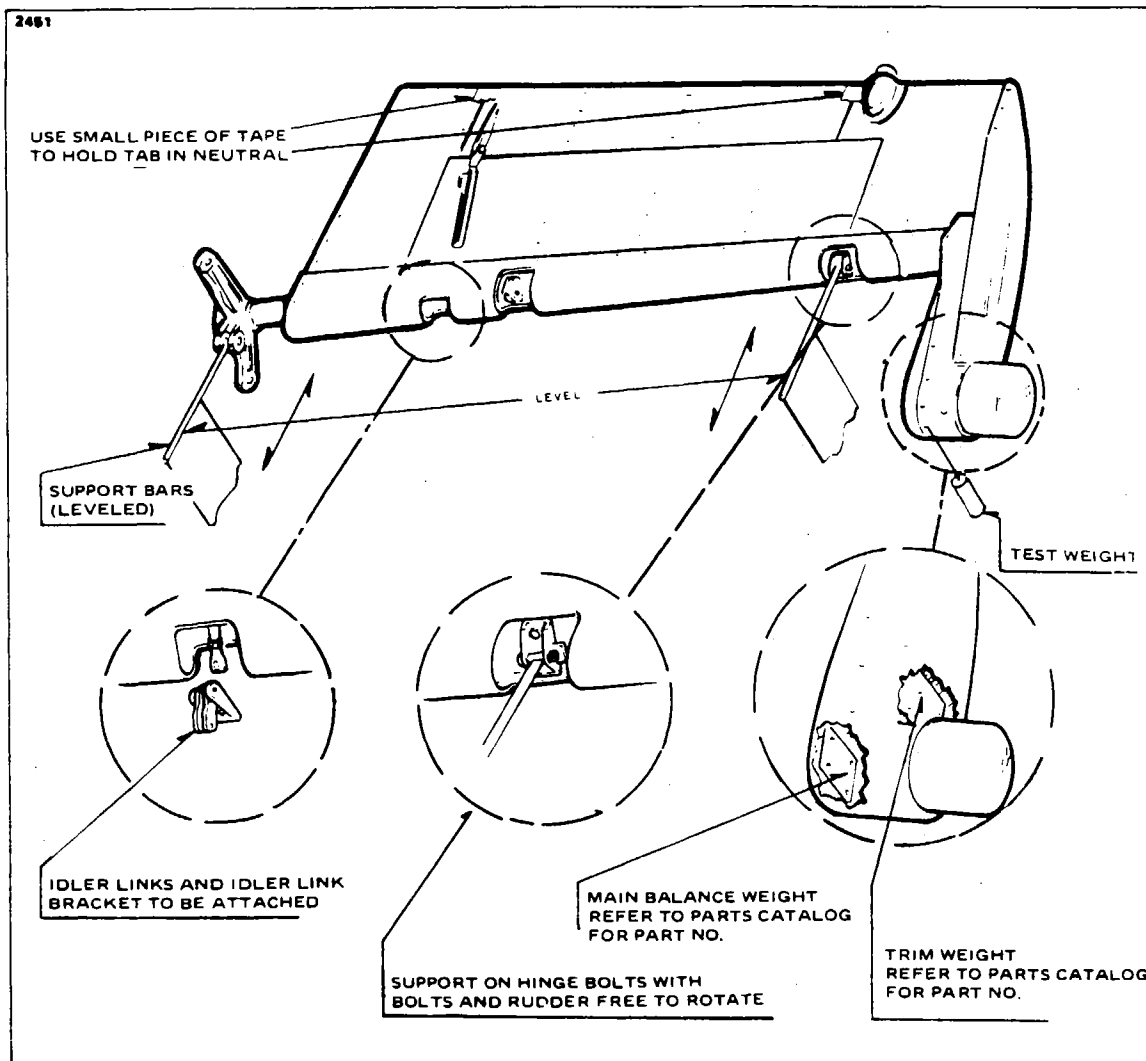

Figure 4-16. Checking Rudder Balance
4-67. BALANCING RUDDERS. (Refer to Figure 4-16.)
Rudder balancing must be accomplished with the assembly removed from the airplane and placed on a fabricated support as shown in figure 4-16, with the rudder hinge bolts in place. The support fixture must be secured to a solid workbench and the rudder allowed to rotate freely on the hinge bolts. Use small pieces of tape to hold the rudder trim tab in its neutral position.
- a. Disconnect the aileron from airplane and position on fabricated support stand, similar to stand shown in Figure 4-16 for rudder balancing.